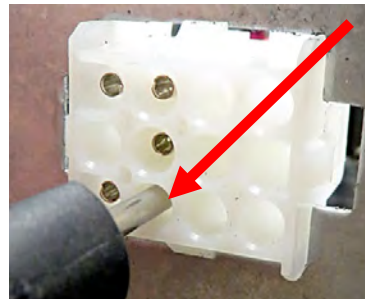

Figure 5
7. Using a pin pusher remove the white wire from pin 6 (see Figure 5) of the connector on the bottom